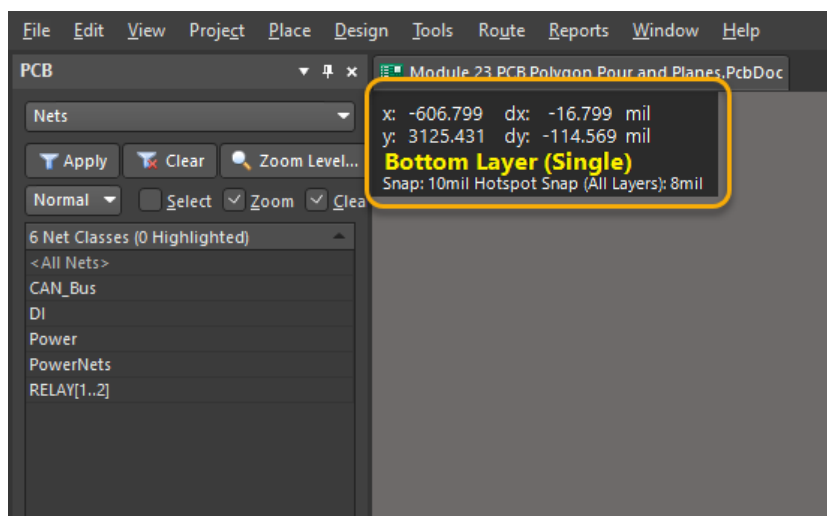

Figure 3. Heads Up Display toggled with the Shift+H keys
16. If it is not visible, enable the *Heads-Up Display (HUD)* by pressing **Shift + H** as shown in Figure 3 below. You can change HUD window opacity and options in  *Preferences*, under the *PCB Editor* branch, on the *Board Insight Modes* page.